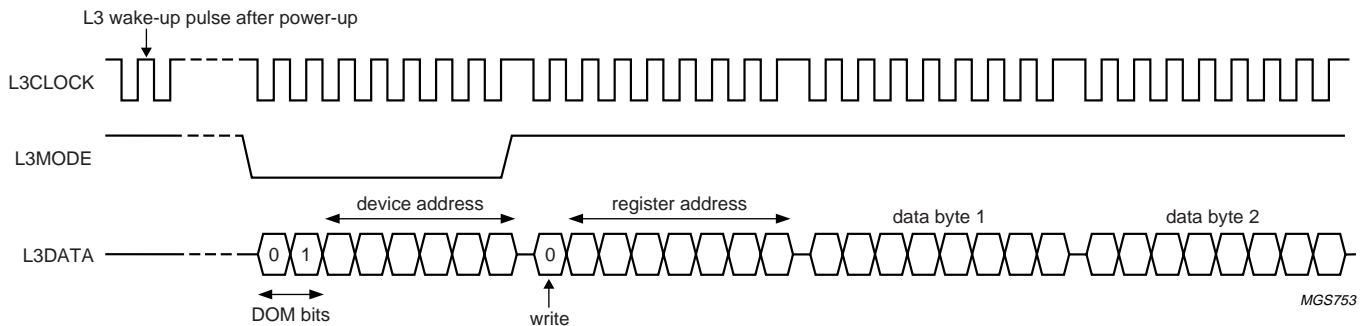

Fig.7 Data write mode (for L3 version 2).
The address mode is used to select a device for a subsequent data transfer. The address mode is characterized by L3MODE being LOW and a burst of 8 pulses on L3CLOCK, accompanied by 8 bits (see Fig.7).
Remark: when the device is powered up, at least one L3CLOCK pulse must be given to the L3 interface to wake-up the interface before starting sending to the device (see Fig.7). This is only needed once after the device is powered up.
1. Addressing for write data: bit 0 is logic 0 indicating a write action to the destination register, followed by bits 1 to 7 indicating the register address (see Fig.7).
The data write mode is explained in the signal diagram of Fig.7. For writing data to a device, four bytes must be sent (see Table 6):